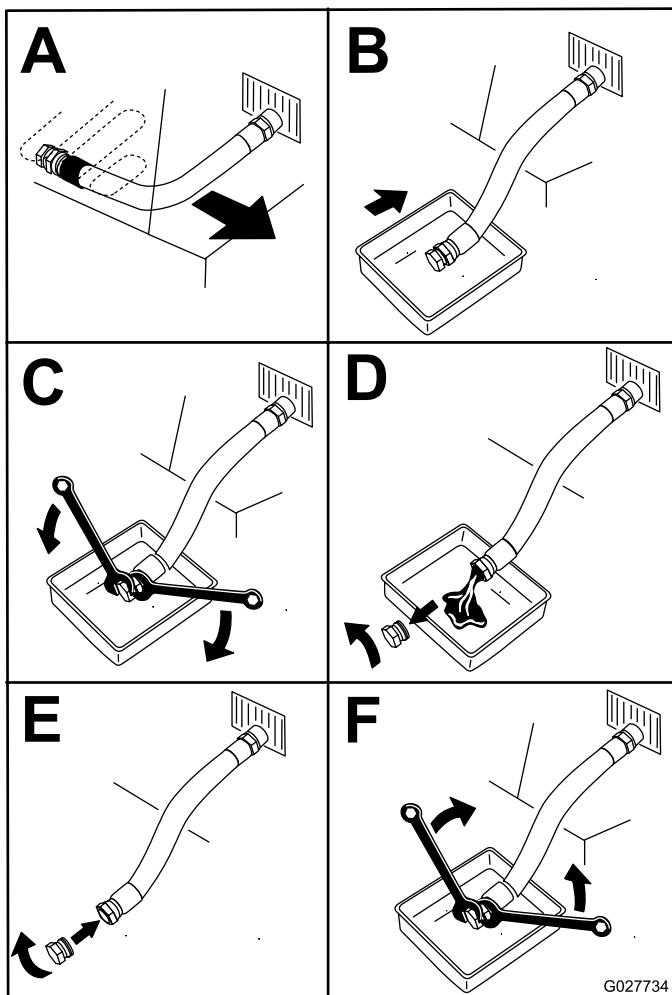

Figure 62
- Drain the oil from the engine (Figure 62).